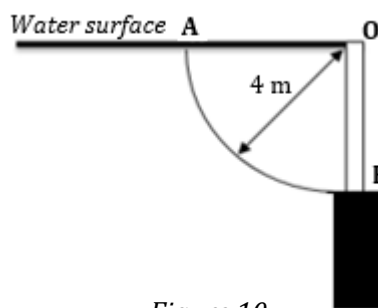

Figure 10
10. Find the horizontal and vertical forces on a curved surface AB, which is in the form of a quadrant of a circle as shown in figure 10. The width of the gate is 3 m. (Ans: 235440 N, 369827.19 N)